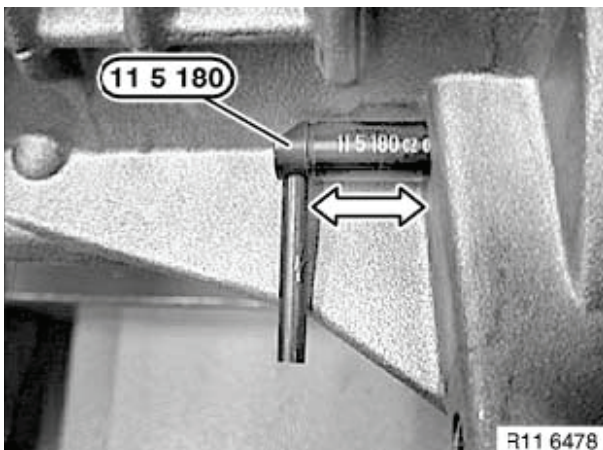

Figure 5-73
4. Secure crankshaft in TDC position with flywheel holding tool OEM No. 11 5 180 (**Figure 5-73**). **NOTICE: DO NOT rotate the crankshaft backward. If the crankshaft is turned past TDC, rotate two more turns (720°) to bring No. 1 piston back to TDC.**